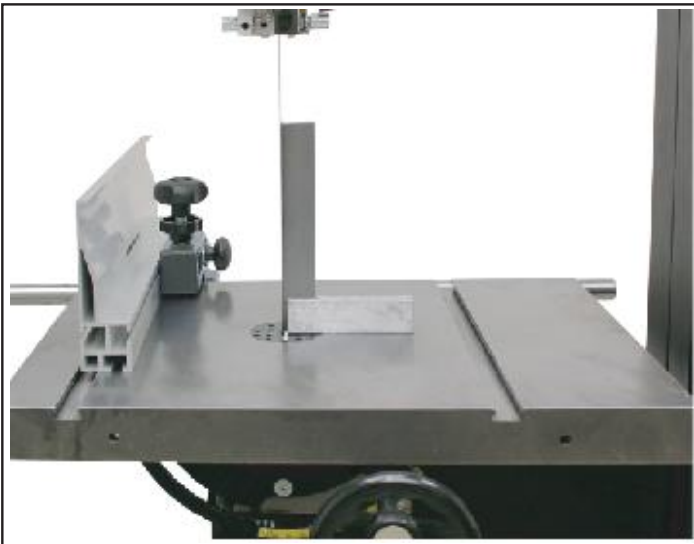

Figure 16: Squaring the Table to the Blade.
- Always tension the blade with the Quick Release Lever in the "ON" position (Figure 16).